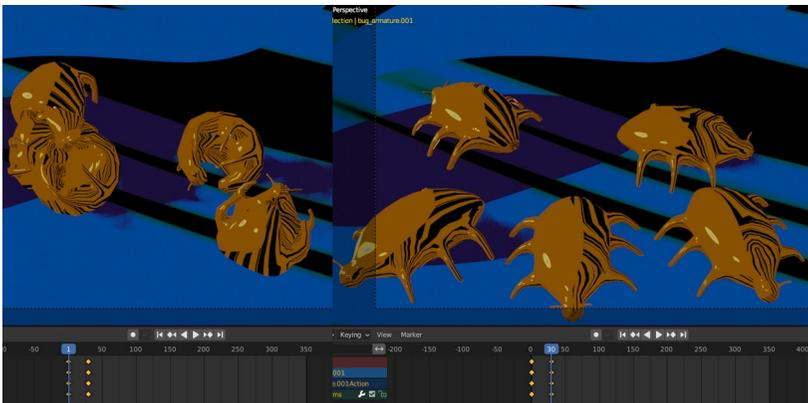

Figure 13-7 Keyframes for curled and uncurled locations and rotations.
7. Append the material named comic from the blend file you worked on at the start of this chapter. You could also append two LineArt objects but there are several modifications needed so it simpler to create two new Grease Pencil objects as described below. Select each bug mesh and set the material to the appended comic. For the bowl and the heavy ball, also select the comic material but then click on the overlapping squares button just to the right, to create a new material for each object. You can now change the base color, roughness, metallic and other properties of these two objects. I used a magic texture for the base color of the bowl but set the cell input color as blue, as you can see in Figure13-7.
10. You need to add keyframes for the location and rotation of each bug armature at frame 1 as it is now, and at frame 30 rotated onto its stomach, disentangled from any adjacent bugs and pointing outwards from the group. The two keyframes are shown in Figure 13-7.